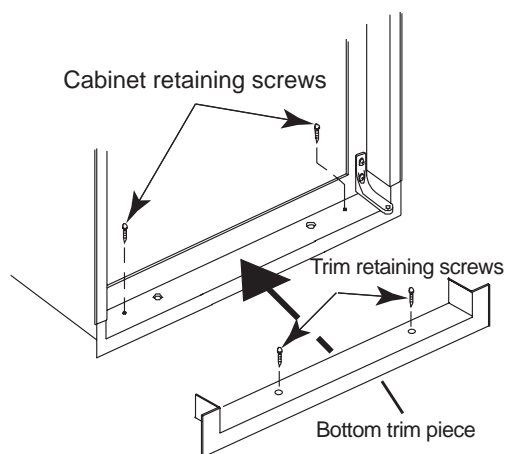

Figure 31. Bottom trim and retaining screws.
3. Attach the bottom of the cabinet to the enclosure. See Figure 31.
4. Reinstall the bottom trim piece. See Figure 31.